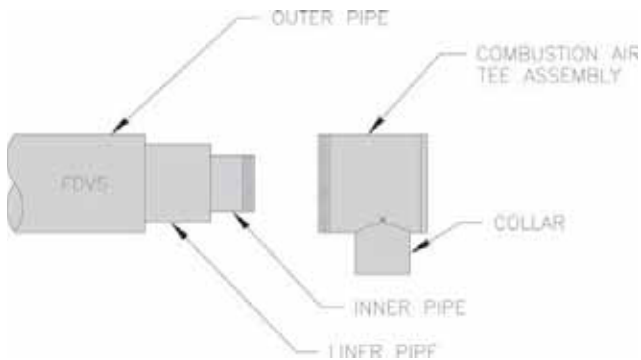

Figure 27: Combustion Air Tee Assembly Installation
- Assemble the vent hood tee body to the vent hood outer pipe, and, rotate the tee, so air intake inlet collar is in the desired position. See Figure 27.